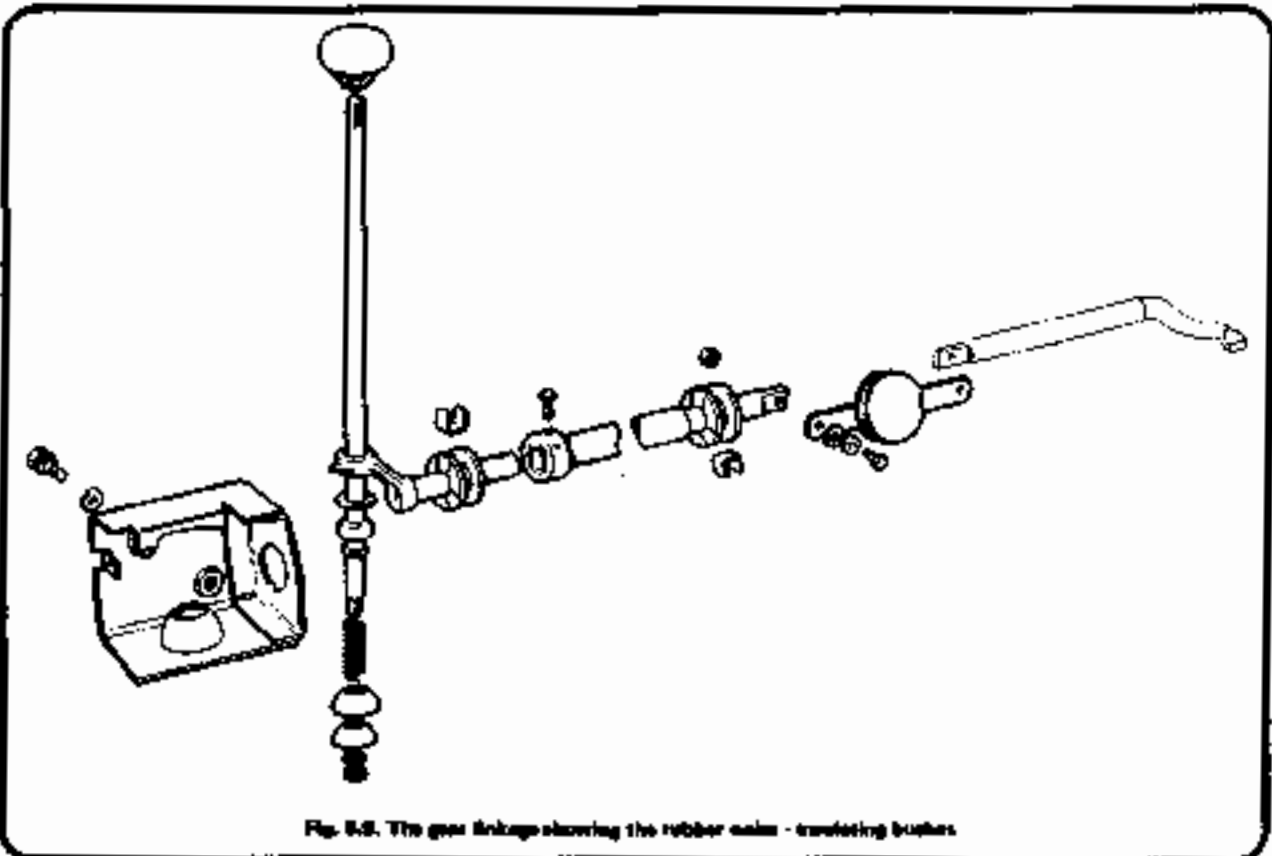

Fig. 6.8. The gear linkage showing the rubber main-transferring bushes.
**C** Fig. 6.8. The dimension 'B' is the distance from the centre line of the differential to the rear face of the pinion. It is normally 75 mm. The variation  $\pm 0.5$  mm of this that an individual pinion needs for correct meshing is stamped on the threaded end of the shaft.